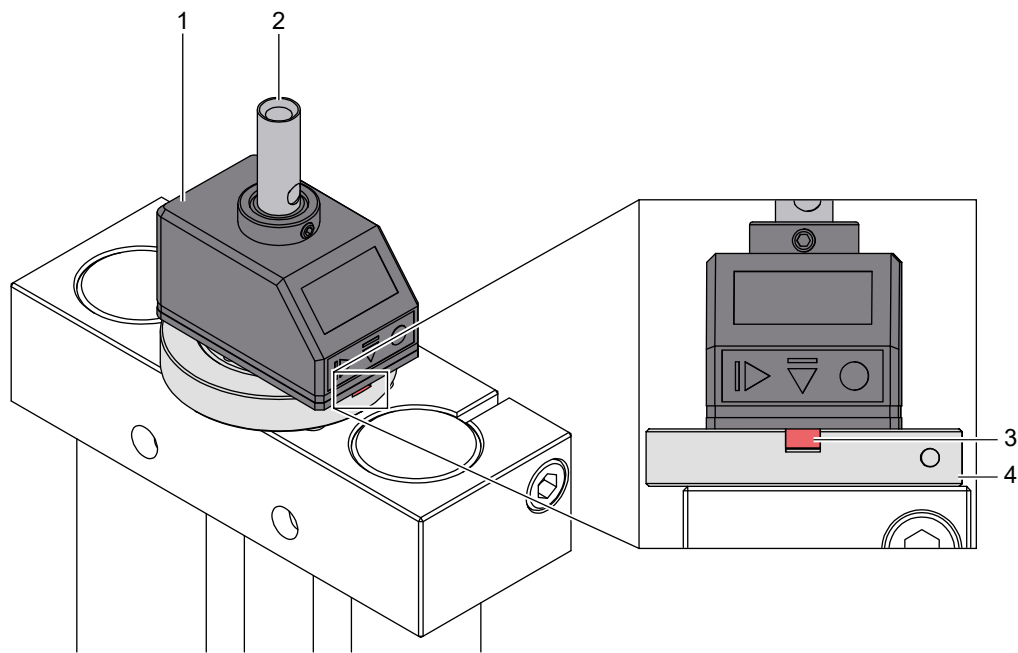

Figure 27 Mounting the position indicator
- Slide the hand crank (1) onto the extension (►Figure 27/2) schieben.
- Secure the hand crank (1) to the extension (►Figure 27/2) with the screw (2).
- Fix the hand crank (1) with the set screw (3)
- Tighten the set screw (4).